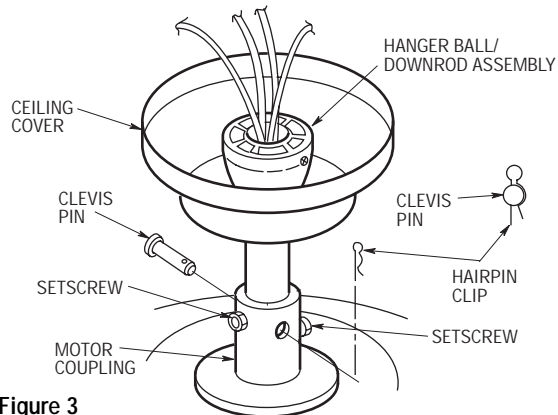

Figure 3
- 5. Loosen the two setscrews from the motor coupling. Align the clevis pin holes in the downrod with the holes in the motor coupling. Install the clevis pin and secure with the hairpin clip (Figure 3). The clevis pin must go through the holes in the motor coupling and the holes in the downrod. Be sure to push the straight leg of the hairpin clip through the hole near the end of the clevis pin until the curved portion of the hairpin clip snaps around the clevis pin. The hairpin clip must be properly installed to prevent the clevis pin from working loose. Pull on the hanger ball to make sure the clevis pin is properly installed.
- 6. While pulling up on the hanger ball, securely tighten the two setscrews in the motor coupling (Figure 3).